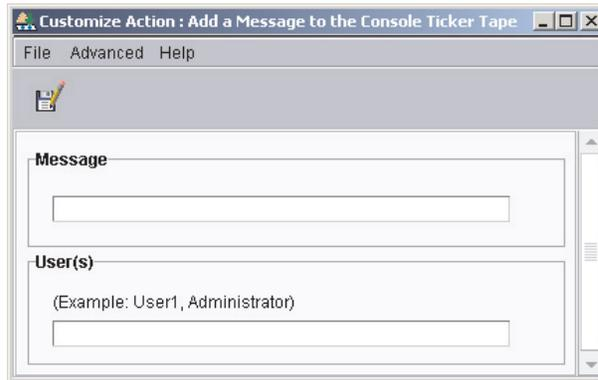

Figure 13. “Customize Action” window: Customizing an action for a ticker-tape alert
9. In the Event Action Plan Builder, double-click an event action type. The “Customize Action” window opens. The example shown in Figure 13 is for ticker-tape alerts.